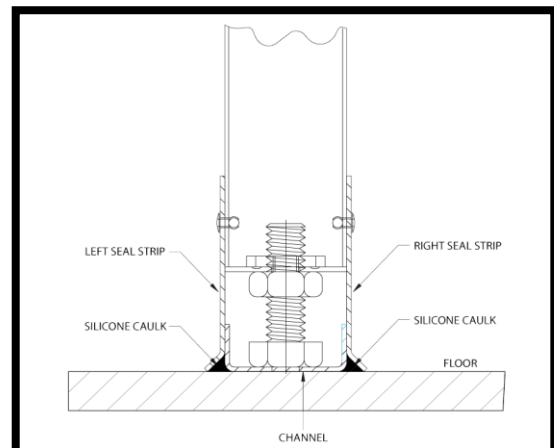

Figure 78: Cross Section View- Floor Seal System
3. Drill out the pop-rivets or remove the sheet-metal screws (whichever are used) on both seal strips on the channel (Figure 78).
9. Run a bead of silicone caulk along both sides of the channel at the floor (Figure 78).